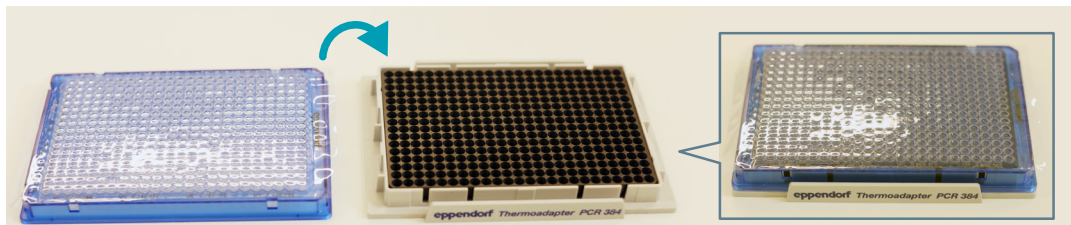

Figure 53. Thermoadapter
- Place the PCR1 Plate on the thermoadapter (*Figure 53*).